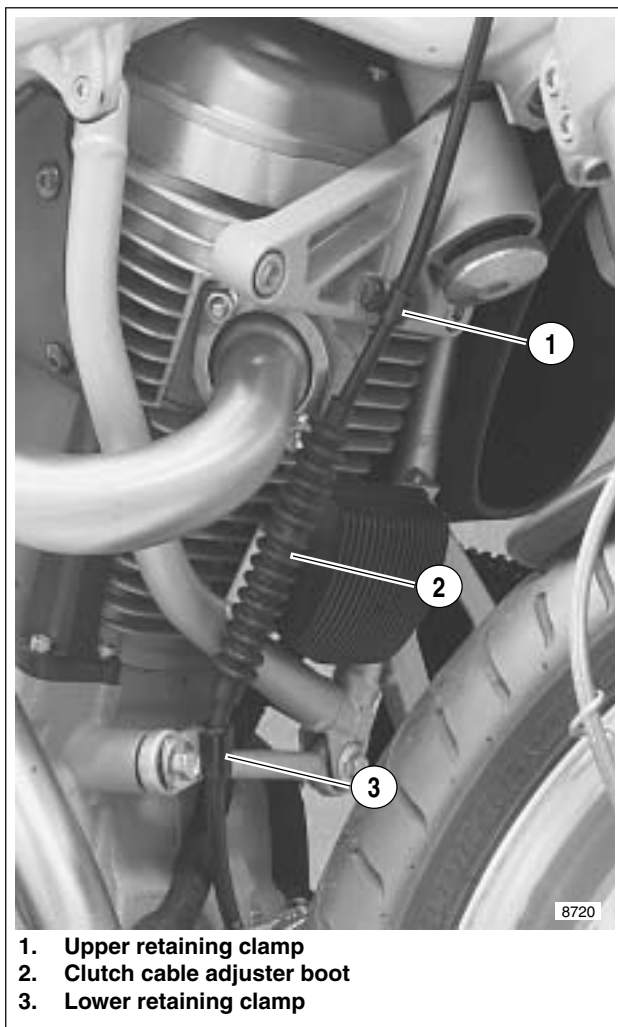

Figure 3-20. Clutch Cable Retaining Clamps and Adjuster Boot
21. See Figure 3-20. Disconnect clutch cable.
- Remove upper retaining clamp (1) from front isolator.
- Slide clutch cable adjuster boot (2) up to access clutch adjuster.
27. See Figure 3-20. Remove front tie-bar from engine along with lower retaining clamp.